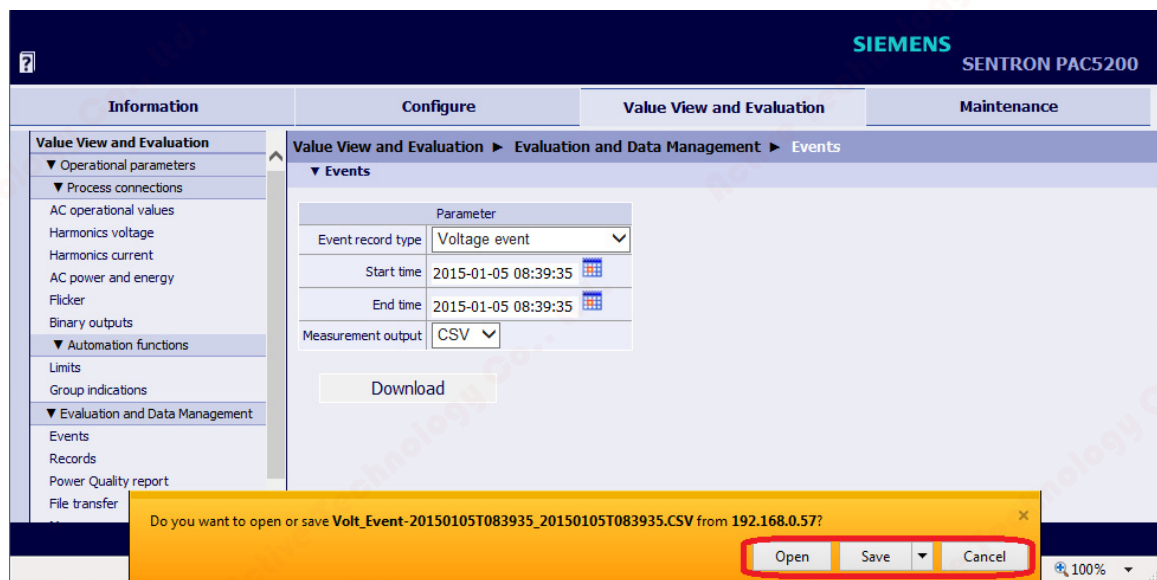

Figure 7-49 Open/Save/Cancel Button Choice
- ✧ In the **Open/Save/Cancel** button choice (see figure 7-49) click **Open**.